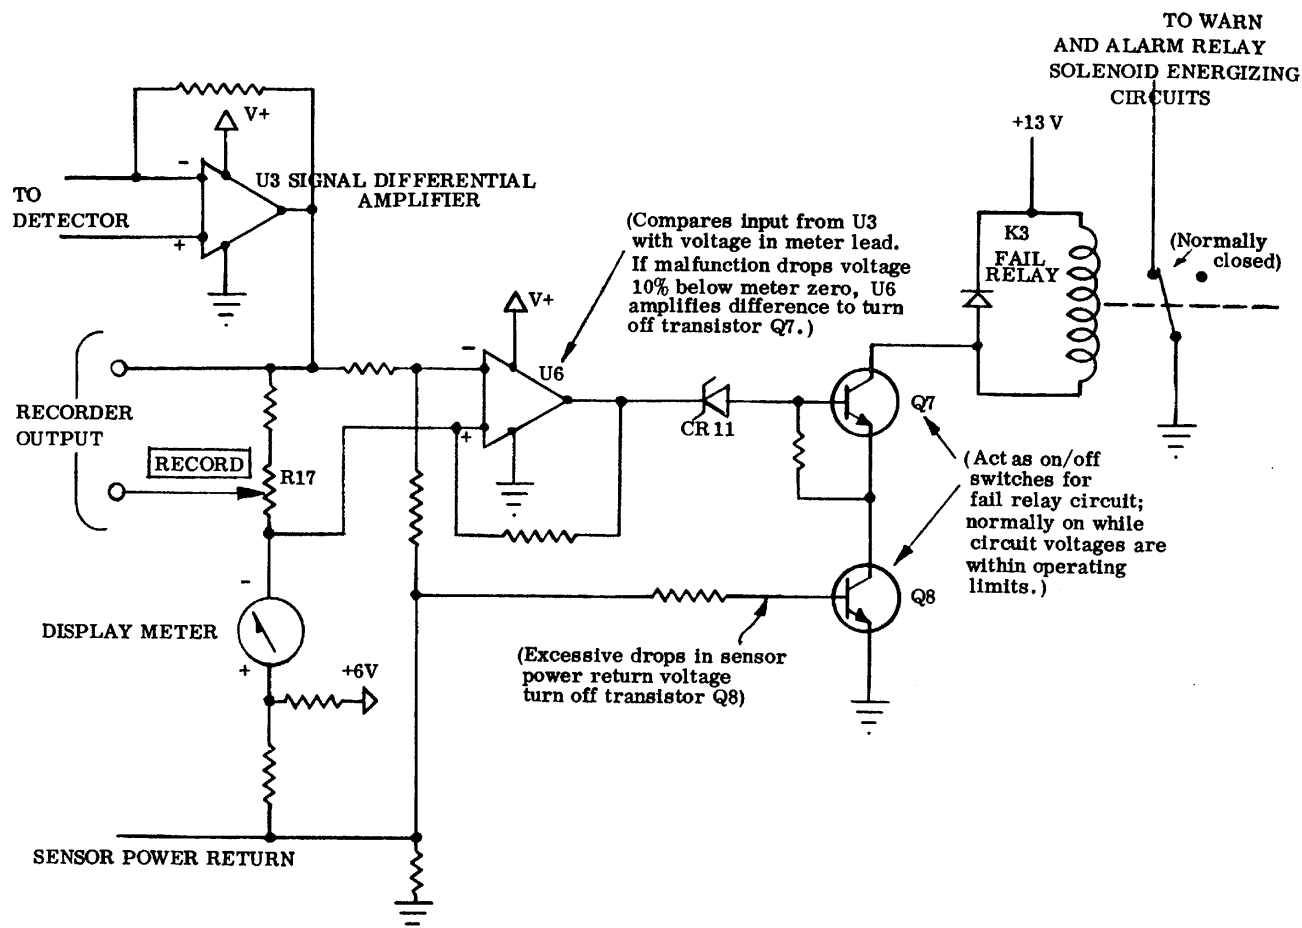

Figure 1-12. Fail Circuit Schematic Diagram
- 1-3.1.7 **Fail Sensing and Relay Circuit.** (Figure 1-12) In normal operation, CD800/830 Fail relay K3 is energized to provide a closed contact through which warning and alarm circuits operate the warning and alarm relays if potentially dangerous gas conditions should occur. Operation of relay K3 is controlled through two transistors (Q7 and Q8) which switch off when certain circuit failures cause a lower-than normal voltage at Zener diode CR11 and at the bases of Q7 and Q8. When this happens, relay K3 is de-energized to switch off the warning and alarm circuitry, thus preventing false warnings and alarms until malfunctions in the foregoing circuits are corrected. Fault conditions most likely to drop the base voltage to turn off transistors Q7 and Q8 include detector sensor element failure, detector cable open or short circuit, improper setting of the VOLT adjust potentiometer R2, and a 10-percent-less-than-zero meter indication.
- 1-3.1.9 **Display Meter**. The display meter, located on the front panel of the control module, continuously indicates gas-to-air mixtures at the remote detect- or in terms of percentage of the lower explosive limit. With fresh air at the detector, the indicator reads zero. But catalytic oxidation of gas on the detector sensor produces unequal outputs from the two halves of the detector circuit, which causes a differential amplifier (U3 for CD800/830; U1 for CD802/832) in the control unit to amplify the difference and produce a proportionate current flow through the indicating meter (Figure 1-12).